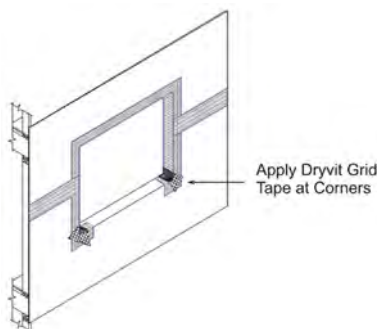

Figure 8
- 1) Apply Dryvit Grid Tape along the jambs and head of the opening as well as all sheathing joints that may intersect the opening and lap onto face of wall a minimum of 51 mm (2 in). Add additional pieces of Grid Tape at the inside corners of the opening to maintain continuity – Figure 8.